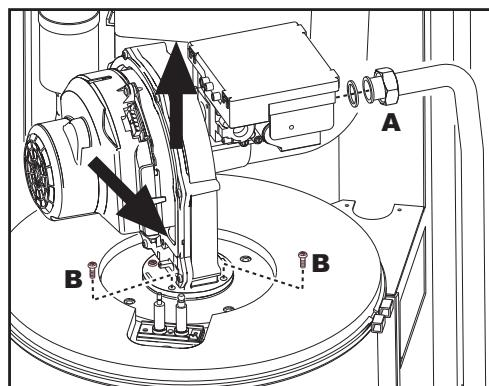
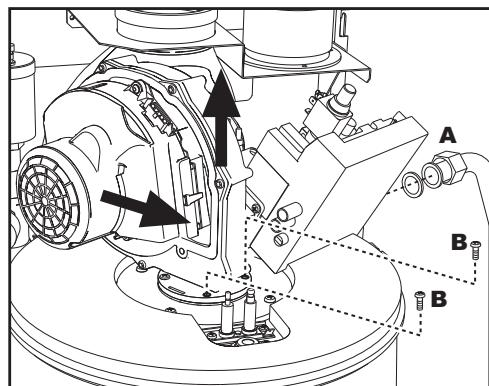

fig. 54 - model ENERGY TOP B 80 - 160
fig. 55 - model ENERGY TOP B 125 - 250
4. Loosen the **gas valve** (fig. 54 e fig. 55) fixing ring "A".
5. Undo the two fixing screws "B" and remove the fan assembly as indicated in fig. 54 for the model ENERGY TOP B 80 - 160 and in fig. 55 for the model ENERGY TOP B 125 - 250.